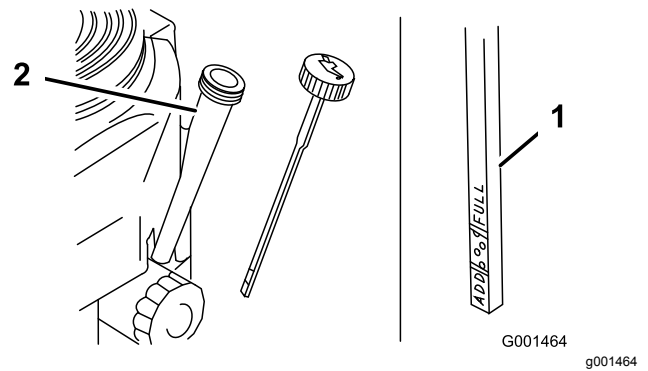

Figure 25
3. Clean around the oil dipstick (Figure 25) so that dirt cannot fall into the filler hole and damage the engine.
4. Unscrew the oil dipstick and wipe the end clean (Figure 25).
5. Slide the oil dipstick into the filler tube fully, but do not thread it onto the tube (Figure 25).
10. Slowly pour approximately 80% of the specified oil into the filler tube (Figure 25).